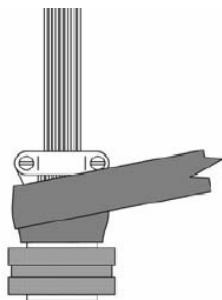

Figure 1. Self Leveling Green; StretchSeal Tape Application
- c. Begin wrapping the StretchSeal tape (AD89503-01-36) around the connector to be protected, behind the coupling ring (nut). Stretch the tape 25 to 50% to ensure good compression around the connector body and rear accessories. Continue to apply the StretchSeal tape with a 50% overlap. Refer to Figure 1.